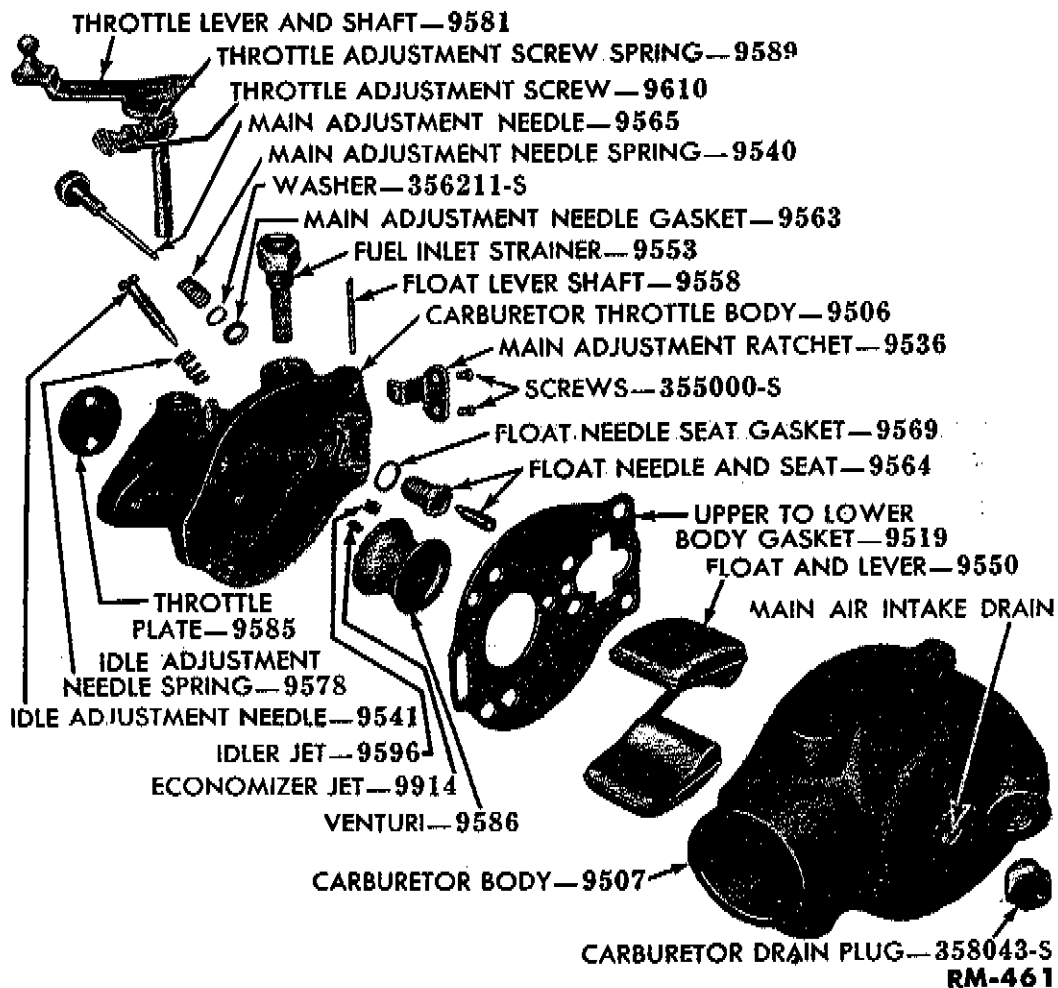
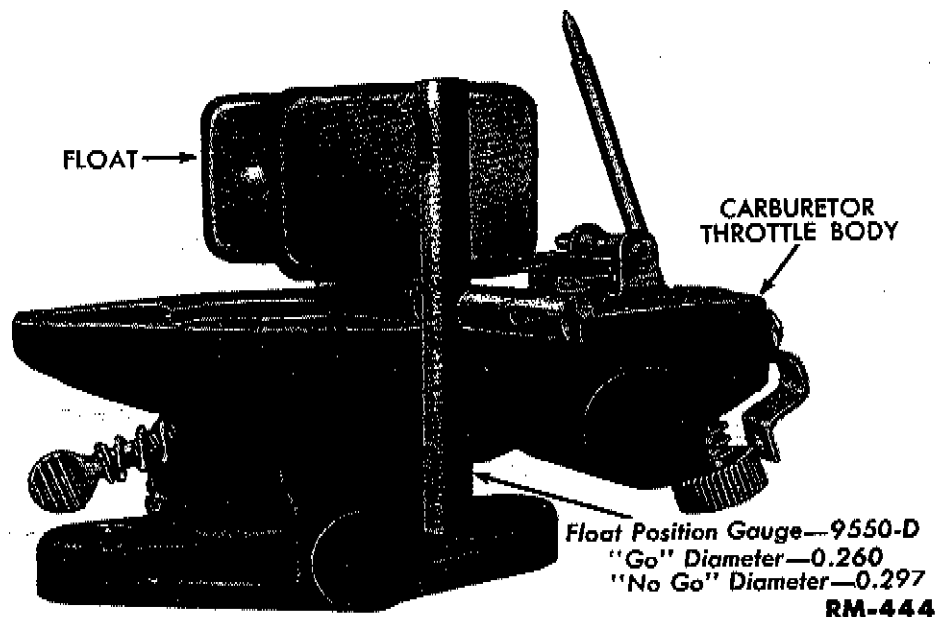

Figure 18—Carburetor, Disassembled
Figure 20—Measuring Float Level (4-Cylinder Engine Carburetor)
a. **Remove Throttle Body From Carburetor Body.** Remove the main adjustment ratchet screws, and remove the ratchet (fig. 18). Remove the main adjustment needle assembly from the throttle body. Remove the four screws which secure the throttle body to the carburetor body. Separate the two units.
b. **Disassemble Throttle Body.** Remove the float lever shaft, float, and float needle valve (fig. 18) from the throttle body. Remove the gasket and venturi. Remove the idler jet and economizer jet with a jet wrench or a small screw driver. Remove the idle adjusting needle. Remove the float needle seat (fig. 18) with a jet wrench.
b. **Carburetor Throttle Body.** Replace the carburetor throttle body if it is cracked, if the threads are stripped, or if the throttle or choke shaft holes are worn. Replace the throttle body if the float hanger (fig. 18) is damaged.
c. **Throttle Shaft and Lever.** Replace the throttle shaft and lever (fig. 18) if the shaft is worn or bent, if the threads are stripped, or if the lever is damaged or loose on the shaft.
f. **Float.** Replace the float (fig. 18) if it is leaking or if it is bent or damaged in any way.
g. **Venturi.** Replace the venturi (fig. 18) if it aged in any way.
i. Main Adjustment Needle. Replace the main adjustment needle (fig. 18) if the threads are stripped or if the valve is ridged.
j. Main Adjustment Needle Spring. Replace the main adjustment needle spring (fig. 18) if it is weak or broken.
l. Float Needle and Valve Seat. The float needle and valve seat are matched in sets, therefore, when one is at fault, both must be replaced. Replace both the needle and the seat (fig. 18) if there is any indication of wear on either part.
m. Economizer Jet. Replace the economizer jet (fig. 18) if the threads are stripped or if the jet is damaged in any way.
n. Maximum Fuel Limiting Jet. Replace the maximum fuel limiting jet (fig. 18) if the threads are stripped, or if the jet is damaged in any way.
o. Idler Jet. Replace the idler jet (fig. 18) if the threads are stripped or if the jet is damaged in any way.
p. Idle Adjusting Needle. Replace the idle adjusting needle (fig. 18) if the threads are stripped or if the valve surface is ridged.
q. Idle Adjusting Needle Spring. Replace needle spring (fig. 18) if it is broken.
r. **Main Adjustment Ratchet.** Replace the main adjustment ratchet if it is broken (fig. 18).
b. **Assemble Carburetor Throttle Body.** Install the idler jet and economizer jet (fig. 18) in the throttle body with a small screw driver or jet wrench. Install the float needle and a new gasket with a jet wrench. Install a new felt seal on the lever end of the throttle shaft. Install the throttle shaft and lever in the throttle body. Place the throttle plate on the throttle shaft, and install washers. Hold the throttle lever in the c
the two throttle plate screws. Install the idle fuel adjusting screw and spring. Turn the screw in until it seats lightly, then back it out $\frac{3}{4}$ of a turn. Place the venturi (fig. 18) in the gasket. Place the gasket on the throttle body so the large end of the venturi seats in the throttle body. Place the float needle valve in the float needle valve seat. Install the float in the throttle body. Secure the main adjustment ratchet to the throttle body with two screws and washers. Set the float to the correct level (fig. 20).
c. Assemble Carburetor Throttle Body to Carburetor Body. Place the carburetor throttle body on the carburetor body, as shown in fig. 21, being careful not to bend the float. Secure the carburetor throttle body to the carburetor body with four screws and lock washers. Install the main adjustment needle assembly, using a new gasket (fig. 18). Turn the adjustment needle in until it is seated lightly, then turn it out $1\frac{1}{4}$ to $1\frac{1}{2}$ turns.